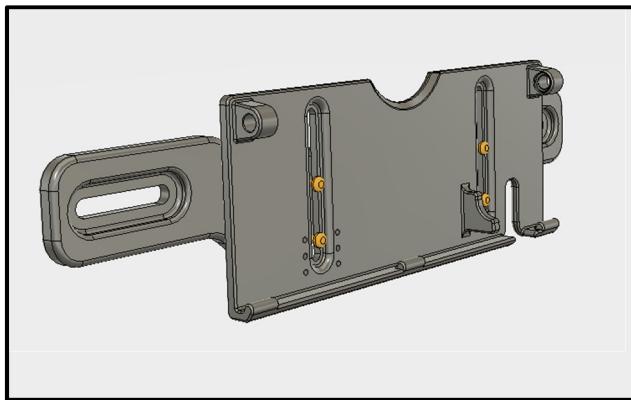
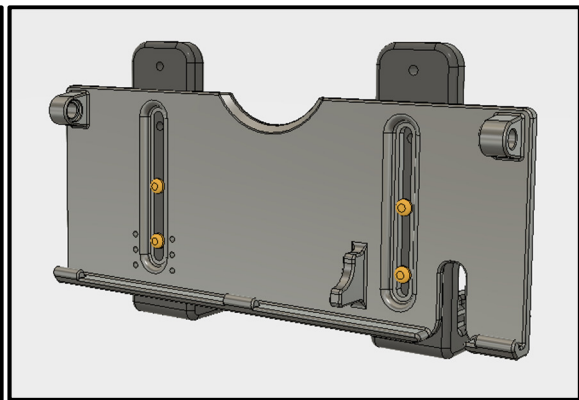

Figure 4: G5 Mounting Panel Connected with a Straight Bracket
Figure 5: G5 Mounting Panel Connected with a L Bracket
- Place four screws through the slit in the Mounting Panel and into the straight bracket as shown in figure 4. Alternatively place two screws through the slit in the Mounting Panel and into each of the L brackets as shown in figure 5.